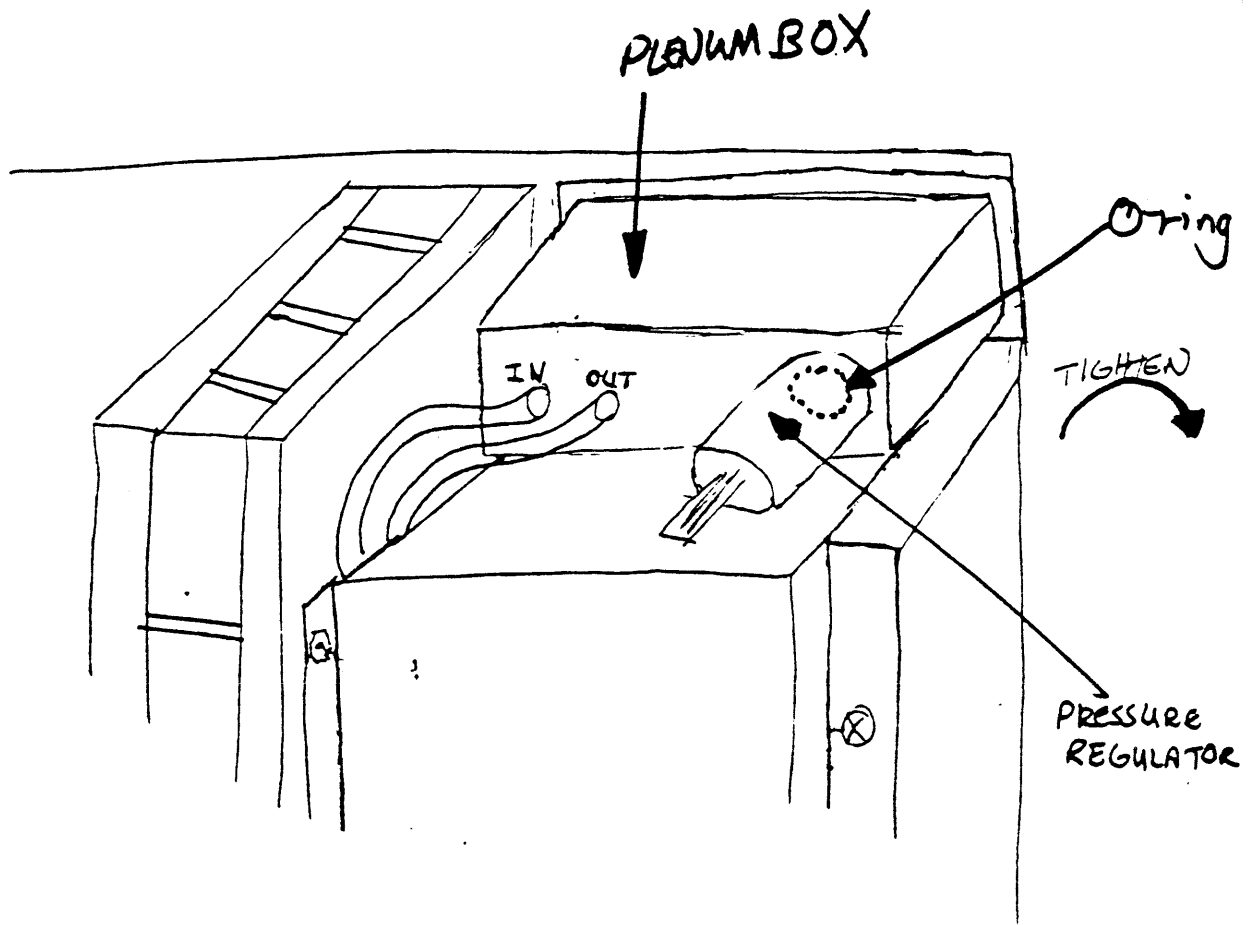

Figure 9 Pressure Regulator Removal
1. Remove the pressure regulator by unscrewing it (counterclockwise) from the plenum box (Figure 9).